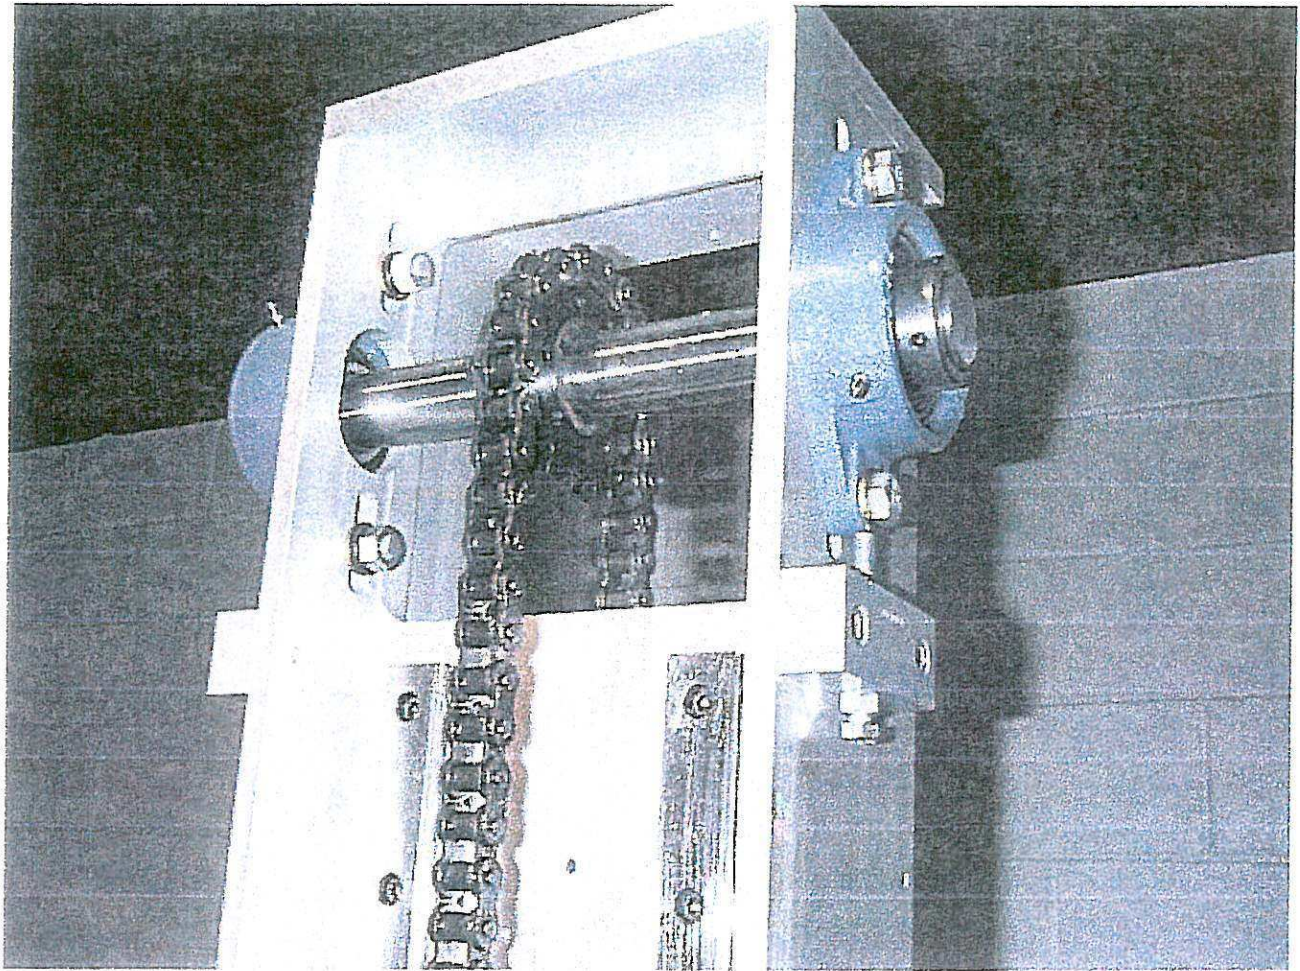

FIG 10
THIS SECTION WILL INVOLVE PROCEDURE TO PROPERLY TENSION #60 ROLLER CHAIN FOR THE VERTICAL I-BEAM DUE TO SPROCKET REPLACEMENT. SEE FIG. 9 AND FIG. 10.
2- THERE ARE FOUR 1/2-20 HEX HEAD SCREWS, TWO 5/16-18 HEX HEAD SCREWS, TWO FLANGE MOUNT PILLOW BLOCK BEARINGS, AND QD SPROCKET. LOOSEN 1/2 HEX SCREWS, THEN LOOSEN 5/16 HEX SCREWS AND SET SCREWS ON PILLOW BLOCK BEARINGS. AT THIS POINT, THE #60 CHAIN IS LOOSE AND ONE END OF BRIDGE IS RESTING ON FORKS. LOOSEN QD SPROCKET, THEN SHIFT THE SHAFT TO ONE END AND REMOVE THE SPROCKET. SEE FIG. 10.
- 3- INSTALL A NEW SPROCKET, SHIFT BACK THE SHAFT INTO THE PILLOW BLOCK BEARING. TIGHTEN THE SET SCREWS TO FIX THE SHAFT IN POSITION. LOCATE THE CENTER OF SHAFT AND TIGHTEN THE QD SPROCKET TO CENTER LINE OF MECHANISM. TENSION THE #60 CHAIN BY APPLYING TORQUE CLOCK-WISE ON 5/16 HEX HEAD SCREWS. THE RIGHT TENSION WOULD BE REACHED WHEN THE CENTER OF CHAIN HAS THE FREEDOM TO MOVE SIDE TO SIDE BY 1/2". CENTER OF CHAIN IS DEFINED TO BE FROM TOP SHAFT CENTER TO THE TOP OF VERTICAL I-BEAM SADDLE. SEE FIG. 10.